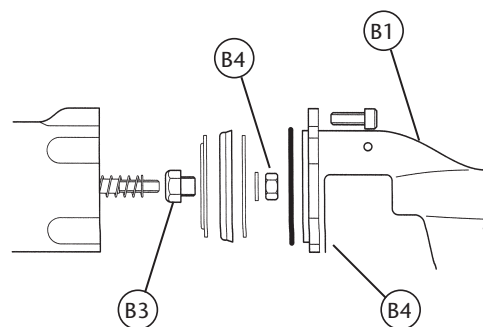

Fig. 4
1. Unscrew and remove the five screws (B1) and remove the handle (B2) and O ring (B3) (fig. 4).